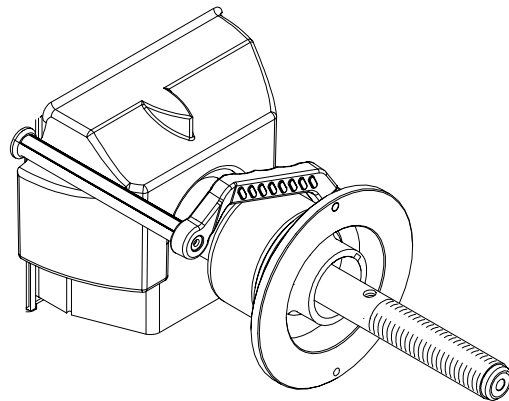

Figure 43 - Extension Resting on Bell Collar
8. Gently pull the SAPE out and rest the arm of the SAPE gauge on the inner part of the bell housing as shown in Figure 43. A tone will sound and the display will change to “**H**” “**POS**”.